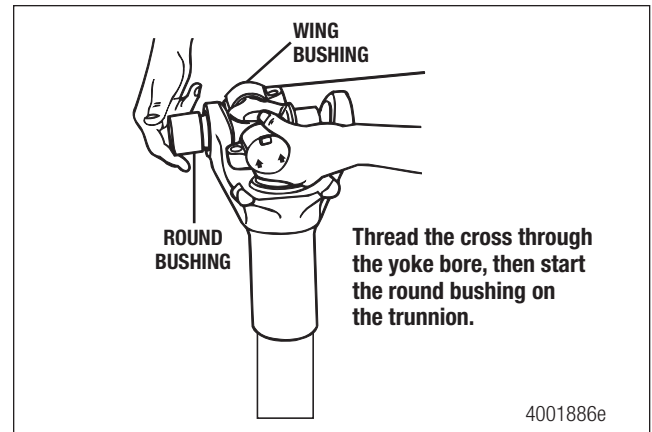

Figure 5.54
4. Position the first round bushing onto the trunnion by threading the cross trunnion through the yoke bore. Figure 5.54.